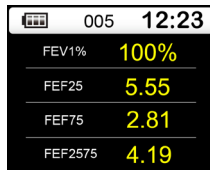

Figure 5 Other parameter interface
c.Other parameter interface: display four parameters except the main parameter, as shown in Fig.5.
d.Under 【Main parameter】 interface, press "Up" or "Down" key will enter 【Other parameter】 【Flow rate-volume chart】 【Volume-time chart】 in turn, as shown in Fig.5, 6, 7. The four interfaces above are 【Main interface】.